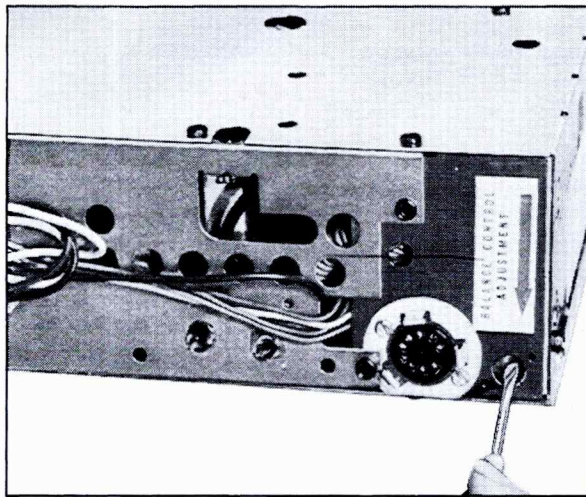

Fig. 15-6 Stereo Balance Adjustment
2. With radio playing and fader control turned fully clockwise, insert screwdriver into balance control screw on lower rear left corner of radio, Fig. 15-6. Rotate balance control adjustment clockwise or counterclockwise until the sound in the left and right speakers appears to have equal volume on a monaural AM station.